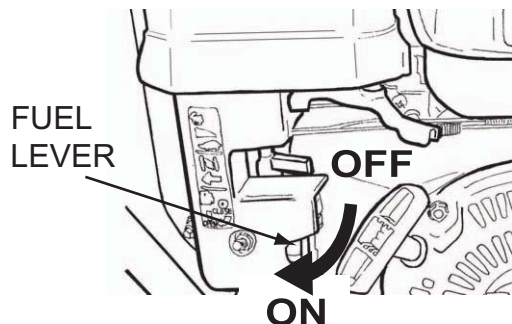

Figure 10. Fuel Valve Lever
1. Place the fuel valve lever (Figure 10) in the "ON" position.
3. Place the fuel valve lever (Figure 10) in the "**OFF**" position.